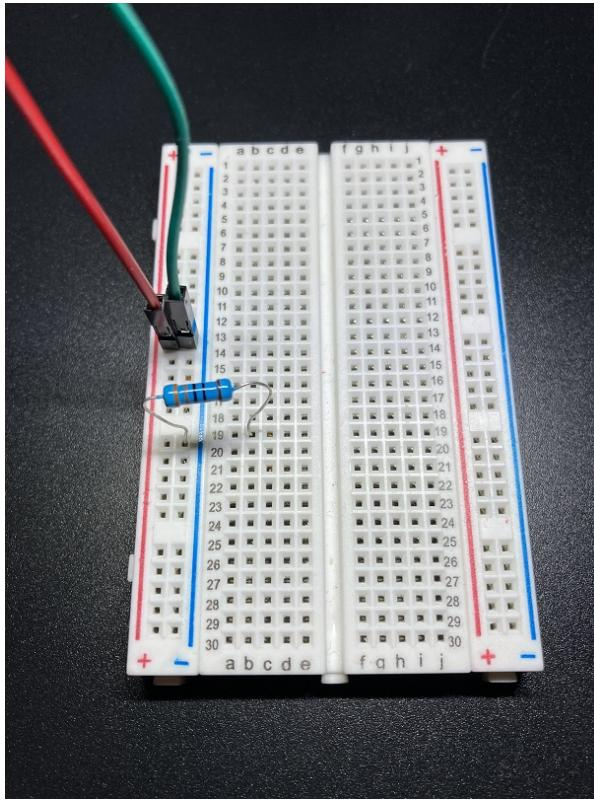

Figure 7: Resistor attached to breadboard.
3. Next setup the resistor on the breadboard. The resistor should be setup connecting the ground bus on the breadboard to an inside row. Keep in consideration you'll need at least one hole for the LED leg to connect in the same row (Figure 7). Resistors are not directionally dependant, so it doesn't matter which end of it is connected to the ground bus and which end is connected to the inside row.